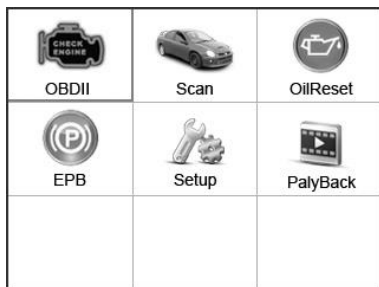
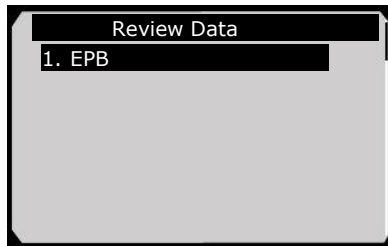

Figure 3.1
Figure 4.1
- 4) Power up the scan tool, and wait for the **Main Screen** to appear (Figure 3.1).
- 1) Use the **LEFT/RIGHT** scroll button or the **UP/DOWN** scroll button to select **Playback** from **Main Screen** (Figure 3.1), and press the **OK** button. Wait for the **Review Data** screen to appear (Figure 4.1).
- 2) Select **Scan** icon in the **Main Screen** (Figure 3.1) and wait for the vehicle manufacturer screen and then select the vehicle make.